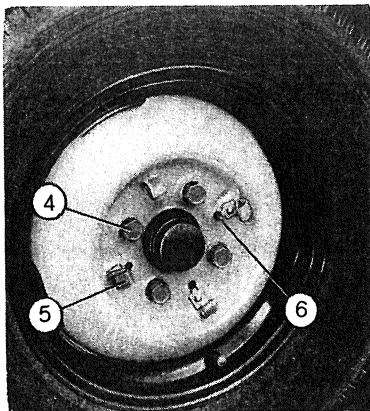

Fig. 377.
Using the speed handle, slacken about one turn the four wheel fixing screws (4, fig. 377).
e) Fit spare wheel. The wheel location dowel (6, fig. 377) on brake drum must fit into the hole provided on wheel disc. Insert wheel fixing screws and tighten uniformly in criss-cross sequence.
g) Tighten wheel fixing screws to a 43.4 - 50.6 ft.lbs (6-7 kgm) torque for both «Sedan» and «Multipla». Refit wheel caps, checking that fasteners (5, fig. 377) secure a positive grip.